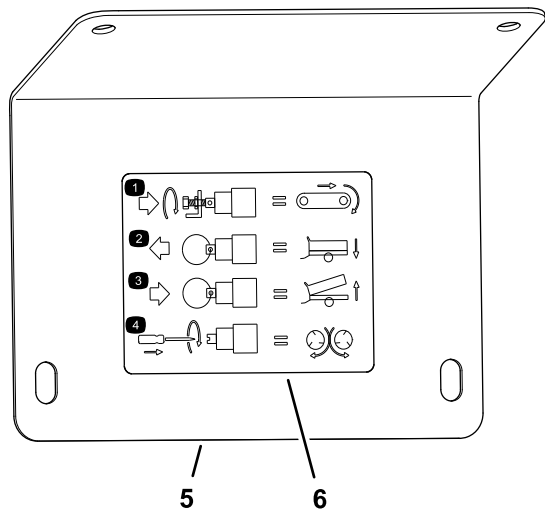

Figure 30
**Note:** Refer to the decal located on the cover plate (Figure 30).